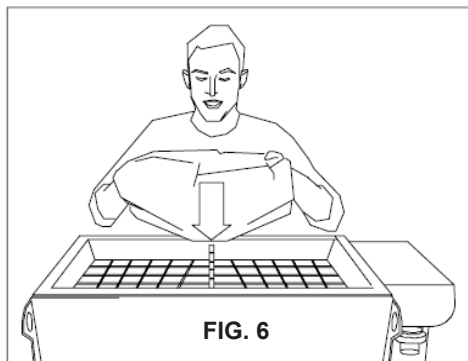

FIG. 6
- Load the pre-mixed dry material. Take the bags of material and place them securely on the bag splitter grid (ref.10,fig.1), lift the two end corners of the bag to completely empty the contents into the hopper (fig.6).